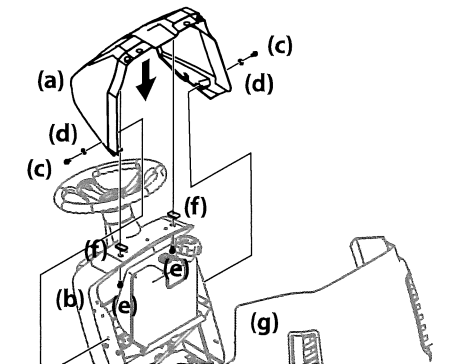

Figure 2-8
1. If the dash shroud (a) was shipped loose, the hardware for attaching the dash shroud (a) is shipped installed in the dash shroud (a) and the dash (b). Remove the two bolts (c) and washers (d) from the dash (g) and two bolts (e) and clips (f) from the dash shroud (b). See Figure 2-8.